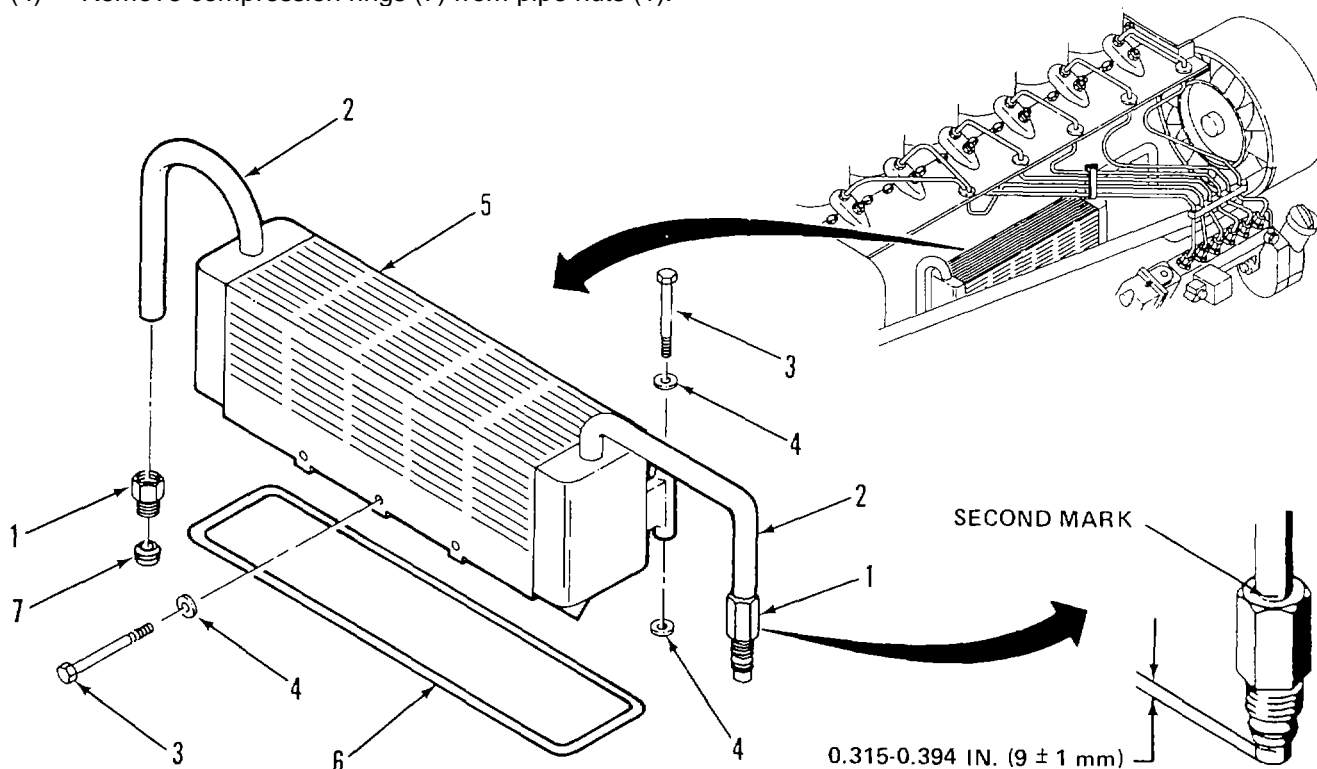

Figure 2-34. Oil Cooler
a. REMOVE. (Figure 2-34)
- (1) Unlatch and remove cowling cover from engine.
- (2) Loosen pipe nuts (1) at inlet and outlet lines (2).
- (3) Remove bolts (3), flat washers (4), oil cooler (5), and gasket (6).
- (4) Remove compression rings (7) from pipe nuts (1).